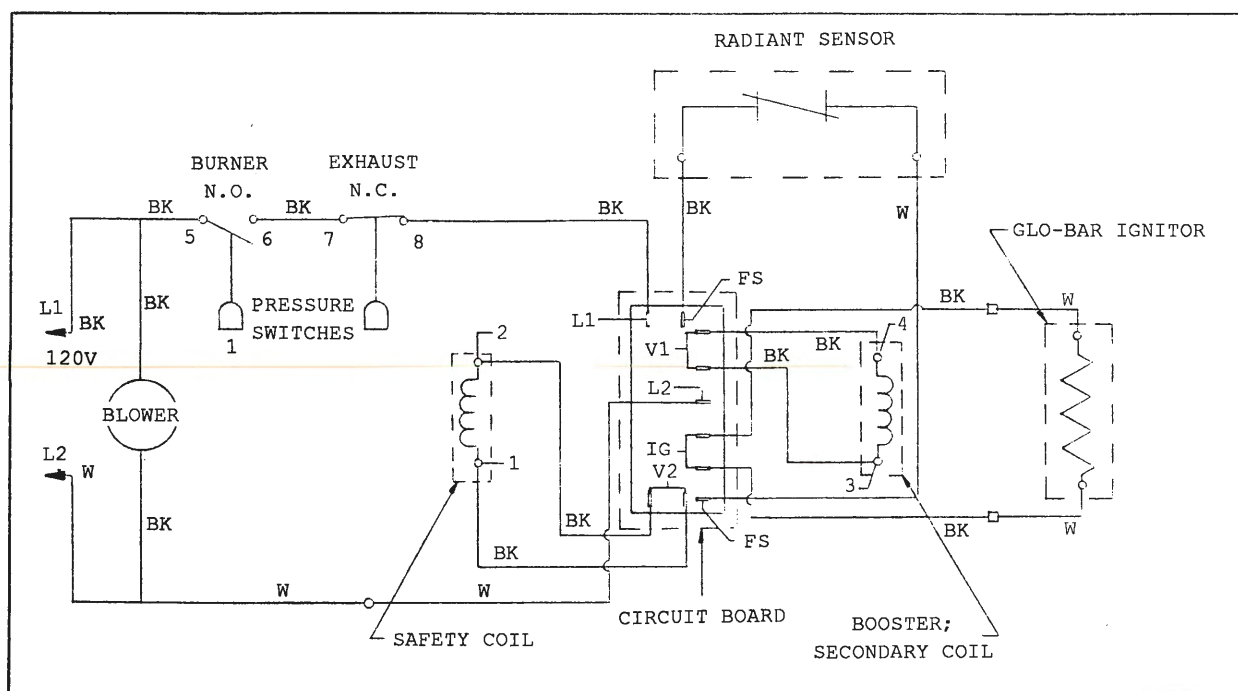

Figure 3-3
- **Starting Circuit (Figures 3-3 and 3-4)**